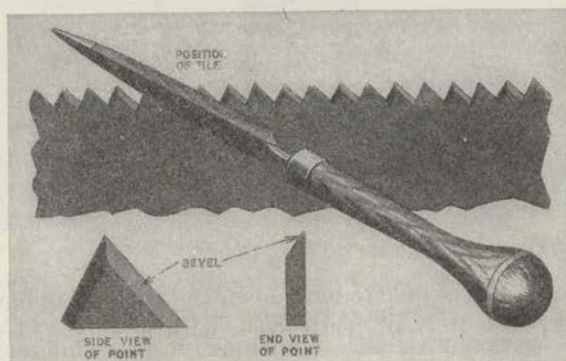

FIGURE 55.—Filing crosscut saw.
(3) (a) Filing is done with the saw clamped as for jointing, except that the handle is placed to the left, and filing is started from this end. For *crosscut saws*, place a three-cornered file between two teeth, inclining it about 45° toward the smaller end of the saw (in this case, to the right). This forms the bevel, or fleam, on the teeth (see fig. 55).